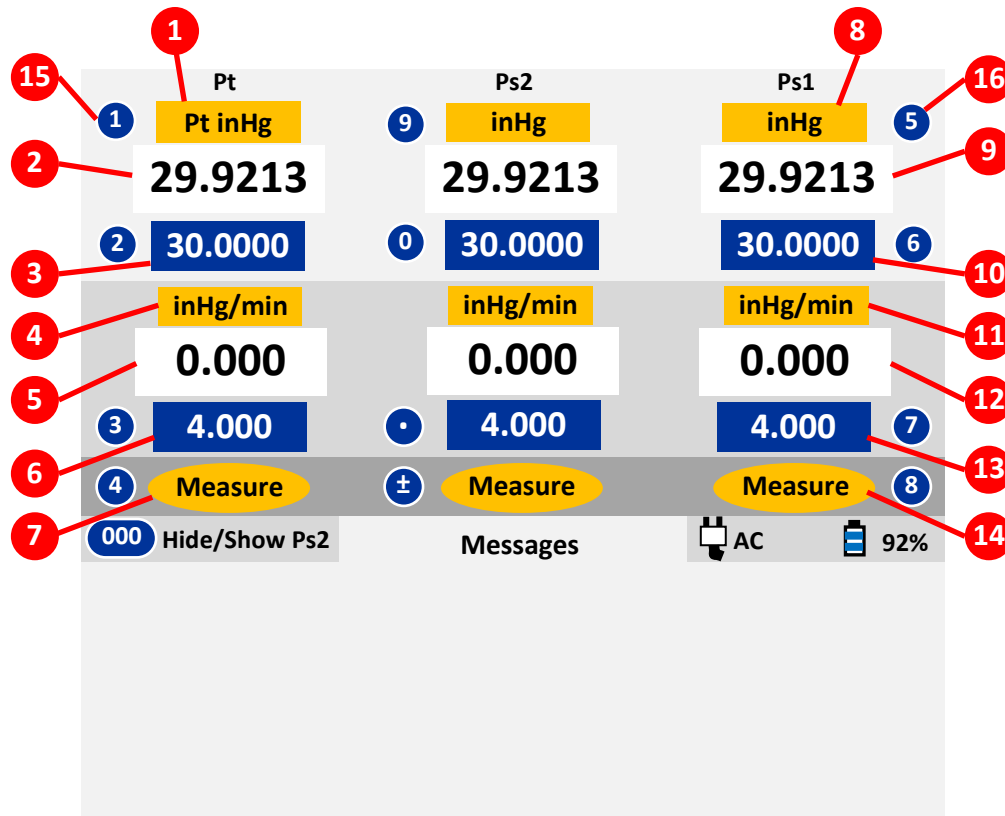

Figure 3.1 : Main operating screen (partial details)
- Release the Power key. After the sign-on screen, the display will appear similar to that shown in Figure 3.1 (next page).
Please refer to Figure 3.1. There are 16 different items (indicated in red) shown on this screen. Numbers 1 to 7 on the left side, refer to the Pt-output parameters. Numbers 8 to 14 on the right side, refer to the Ps1-output parameters. Numbers 15 and 16 point to a typical symbol indicating a key number (as shown, key # 1 and key # 5). Details of each item follow.